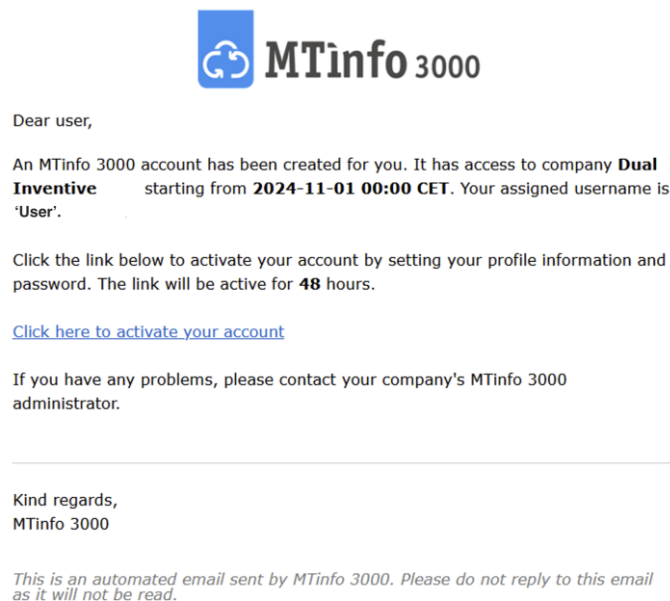

Figure 26 New user activation email
1. The new user receives an **activation email** with an account activation link (see Figure 26).